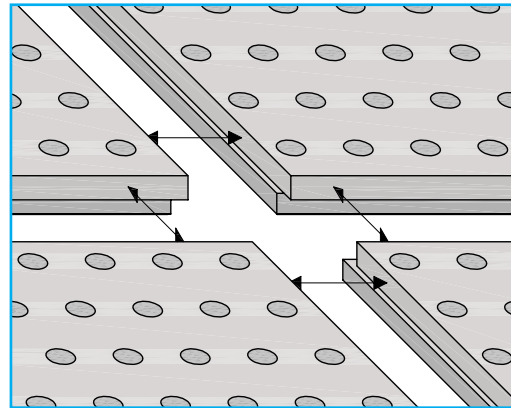

FIGURE 9 Linear Edges Alignment
- Place linear notch edge adjacent to linear lap edge along short and long edges. [Figure 9]
Constantly check overall appearance of the ceiling via the straights and diagonals of the perforation rows during installation. [Figure 9]